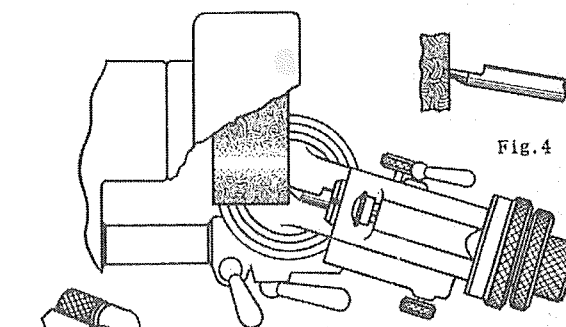

Fig. 4
3. Release clamping levers K3 and K4; hold scale T4 against its stop and, beginning at the 90°-position, set swivel arm at the desired angle; for example, where an angle of 10° is desired, the swivel arm will have to be set at 80°. Tighten clamping levers K3 and K4, see Fig. 4.